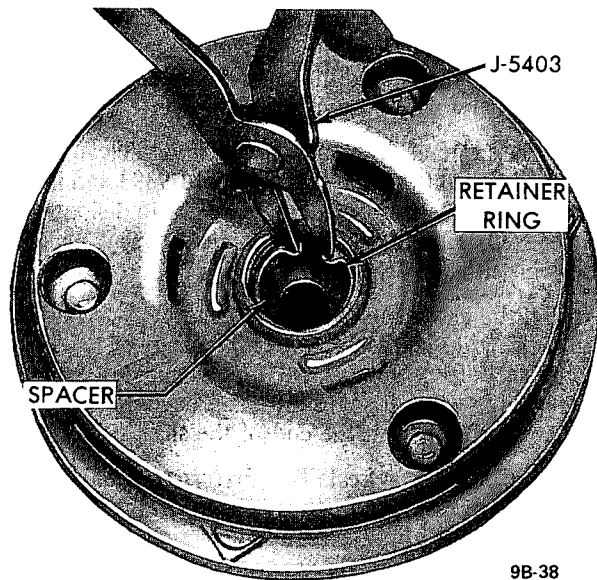

Figure 9B-61 - Removing or Installing Retainer Ring in Clutch Drive Plate - 6 Cylinder Compressor
5. If compressor has an absorbent sleeve in the neck, pry out the sleeve retainer and remove the sleeve. Remove the seal seat retainer ring, using No. 21 Truarc pliers, Tool J-5403, (see Figure 9B-62).